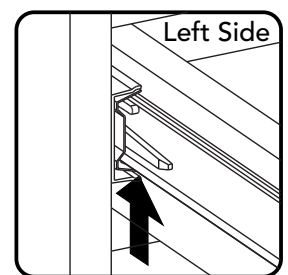

Figure 11
Note: To remove Drawers (V) and keyboard in future, push plastic lever on left side up, push plastic lever on right side down and pull open. (See Figures 11 and 12)